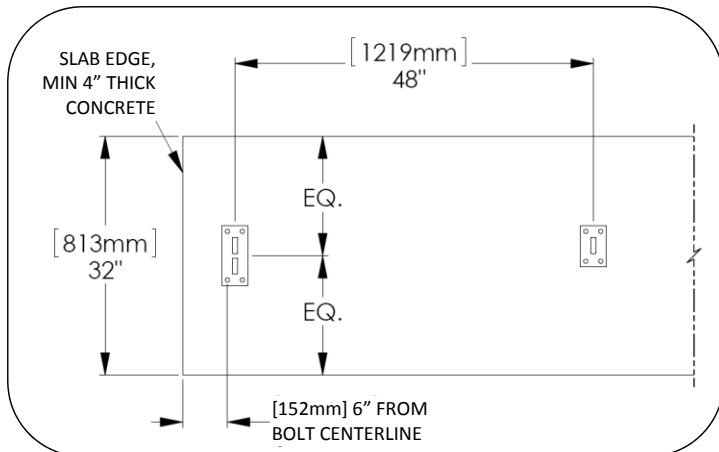
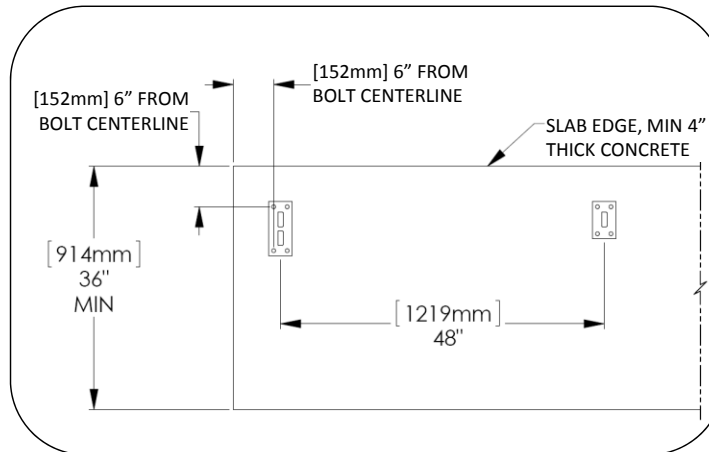

Fig. 3 – Surface mount, centered on slab
Fig. 4 – Surface mount, installed near edge of slab
1. Set end post in place. See Fig. 3 and Fig. 4 for minimum slab sizes.